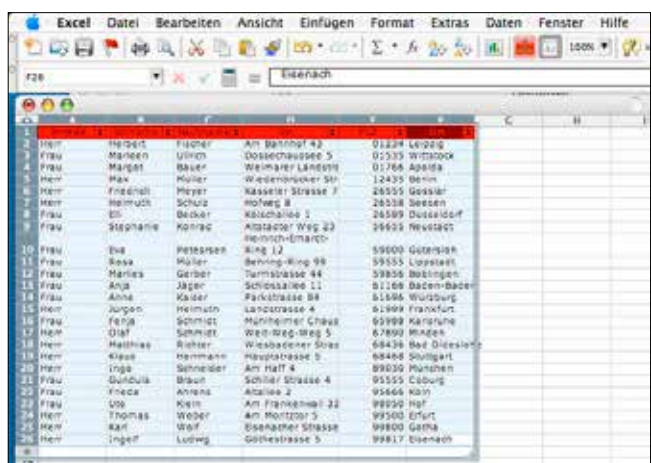

Fig 3
- Do not send the spreadsheet as a list (see Fig. 3)